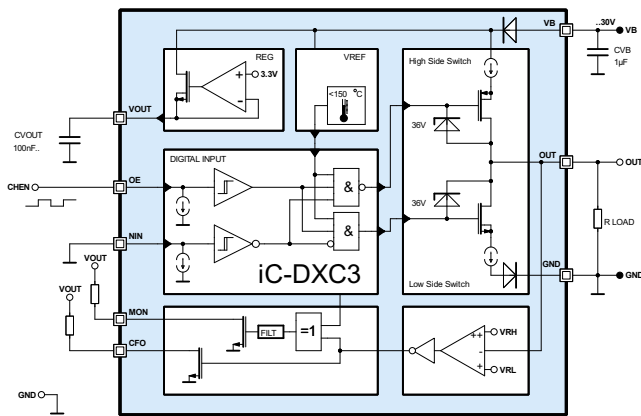
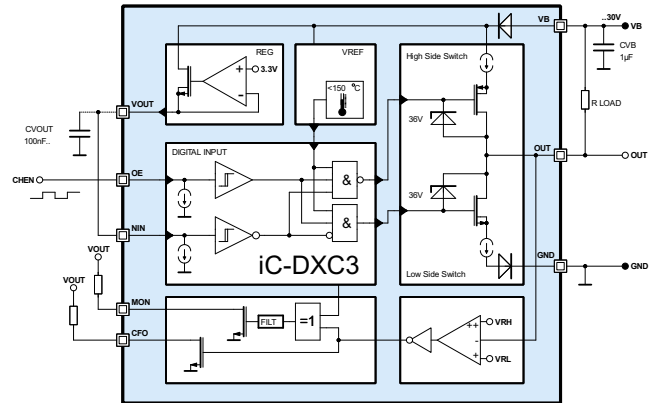
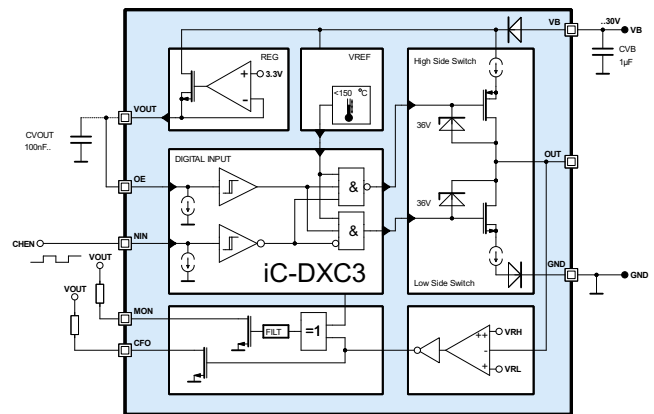

Figure 4: Configuration as High-Side (PNP-Switch)
Figure 5: Configuration as Low-Side (NPN-Switch)
Figure 6: Configuration as Pushpull
The iC-DXC3 can be operated in high-side (PNP), low-side (NPN) and push-pull (PP) switch mode. Figure 4 shows the high-side operation where NIN pin must be kept low and the OE pin controls the switch. Figure 5 shows the low-side operation where NIN pin must be kept high and the OE pin controls the switch. Figure 6 shows the push-pull operation where OE pin must be kept high and the NIN pin controls the switch. If the OUT signal differs from what declared in tables 1, 2 and 3 (due to external forcing) for more than 14 μs (cf. Electrical Characteristics No. 510), this event will be signalled by a low level at MON output.
Table 1: Output Function table Fig. 4. High-side mode (PNP-Switch) with external pull-down.
Table 2: Output Function table Fig. 5. Low-side mode (NPN-Switch) with external pull-up.
Table 3: Output Function table Fig. 6. Push-Pull mode